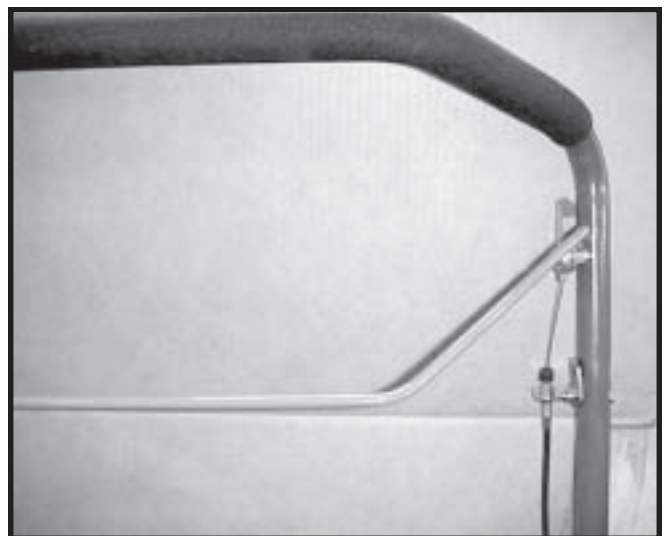

FIGURE 9
21. Attach upper end of cable to the handle and install cable through clutch bail. Fit clutch bail into the handle. See Figure 9.